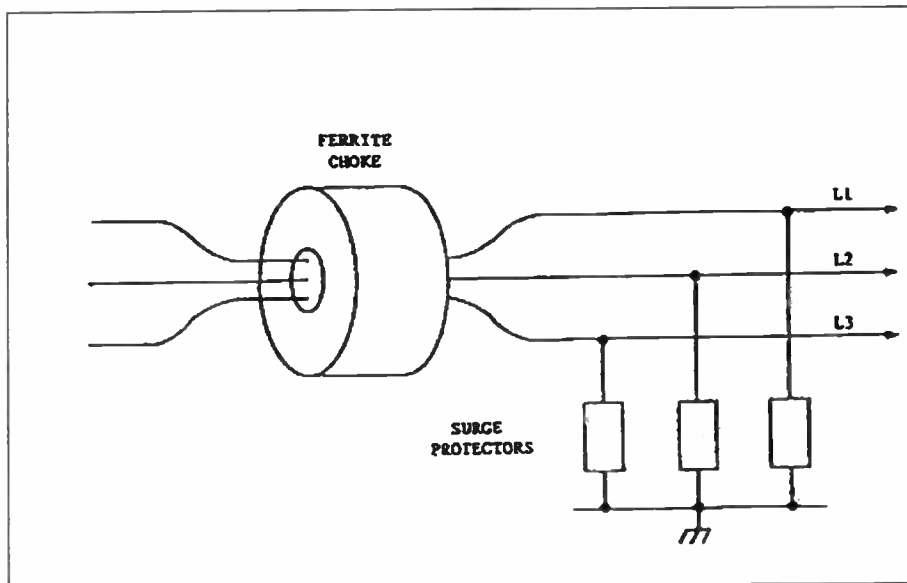

Figure a-7. Surge Protectors and Ferrite Choke
- Remedy - Transient protectors are very effective in preventing damage to the equipment when properly designed and installed. (See Figure A-7.)
See Figure A-7. All incoming ac lines should have a choke connected in series to limit the high frequency surges on the lines followed by a surge protector. The surge protector must be connected to the building ground system by short direct connections.